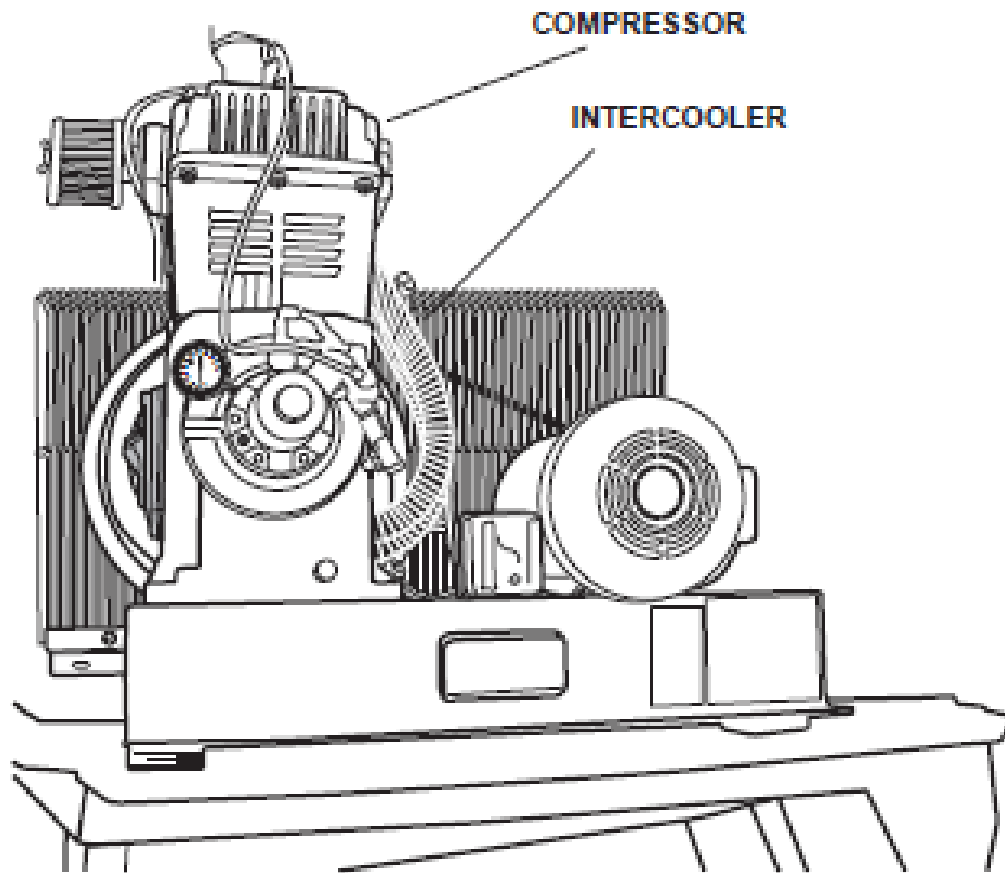

Figure 551-88L-2045_04
(1) Clean the cooling surfaces of the intercooler, and compressor using compressed air and a wire brush as necessary, (refer to Figure 551-88L-2045_04).
(3) Remove the dipstick and inspect the oil for contamination, change the oil if any of the following are found; (refer to Figure 551-88L-2045_05).